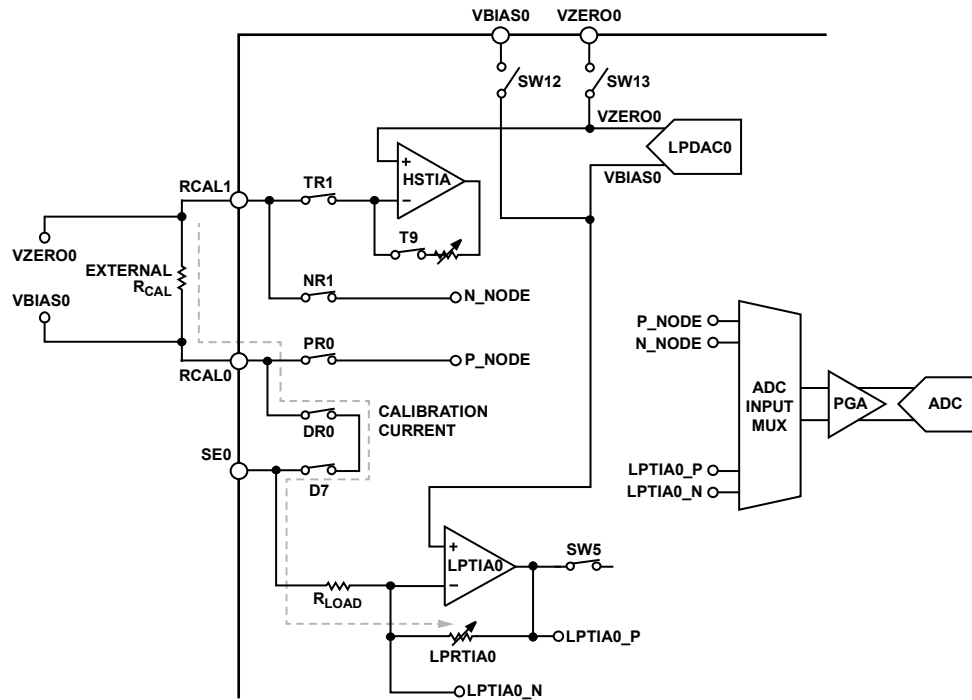
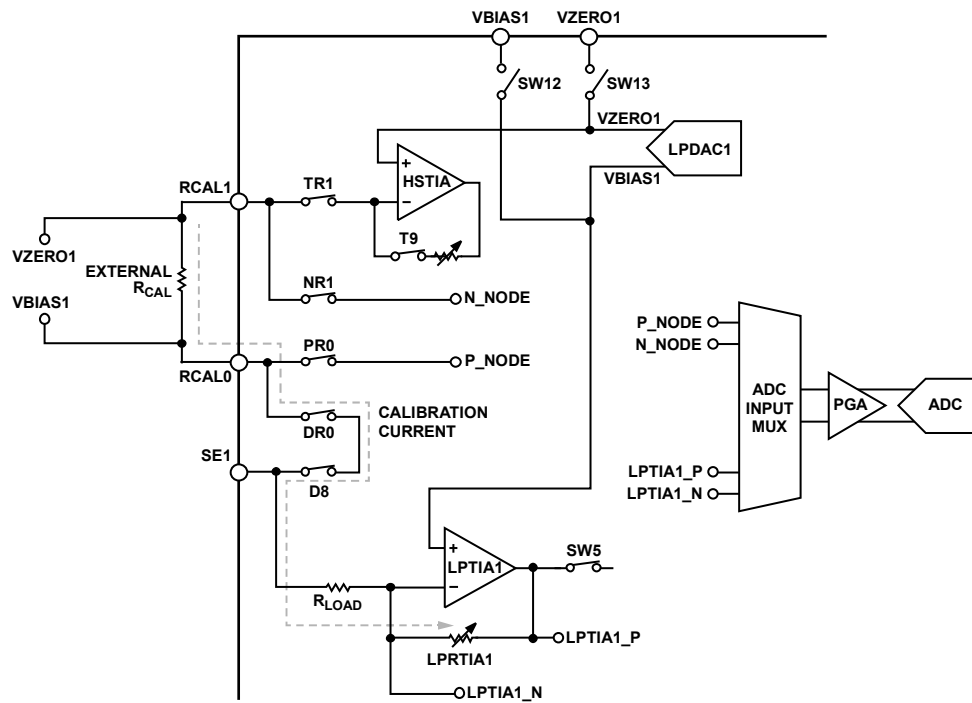

Figure 31. HSTIA, LPTIA0, and Switch Matrix Settings for LPRTIA0 Calibration
Figure 32. HSTIA, LPTIA1, and Switch Matrix Settings for LPRTIA1 Calibration
Figure 31 and Figure 32 show the setup and switch settings used to connect the low power DAC outputs to the external R_{CAL} resistor and the current flows into the LPTIA gain resistors (LPRTIAx).
- The ADC LPTIAx_P input channel and LPTIAx_N input channel are measured for each LPTIA (see Figure 31).